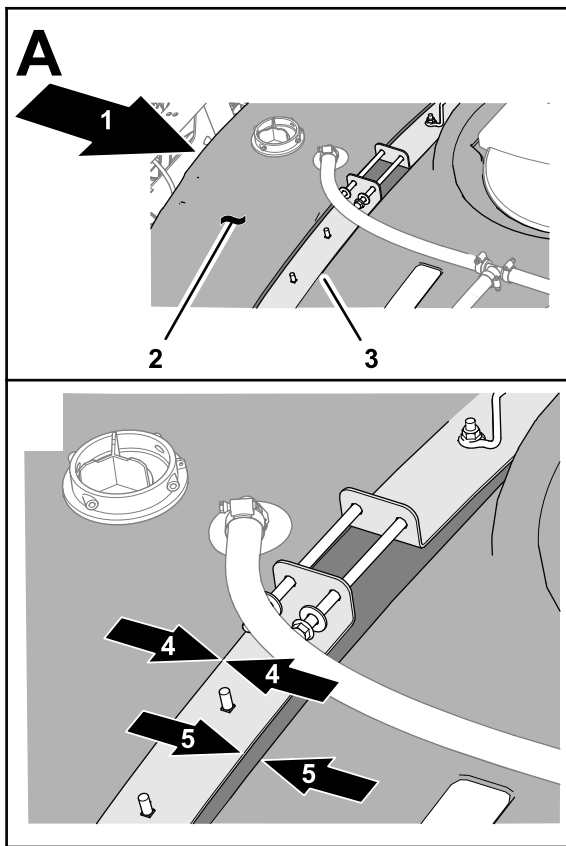

Figure 8
- Move the spray tank forward until the straps align flush with the rearmost shoulder of the strap relief molded into the tank (Figure 8).